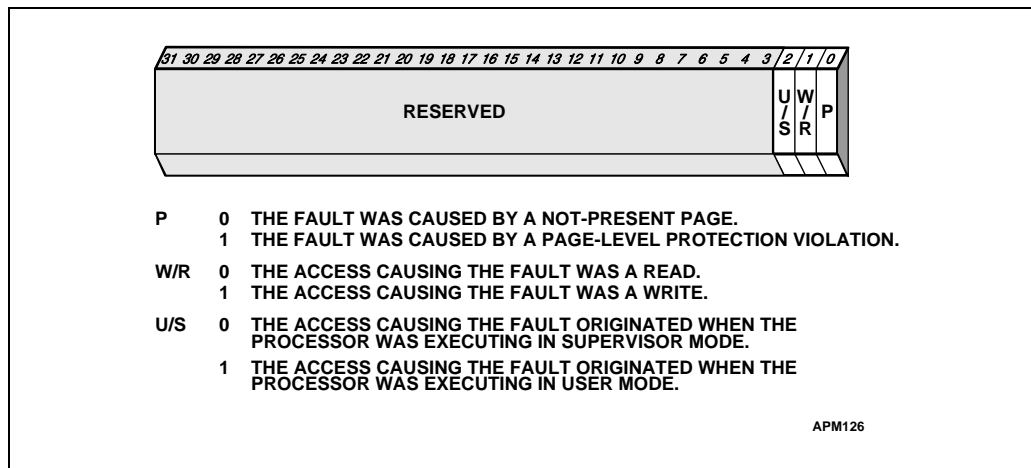

Figure 14-7. Page Fault Error Code
- An error code on the stack. The error code for a page fault has a format different from that for other exceptions (see Figure 14-7). The error code tells the exception handler three things: